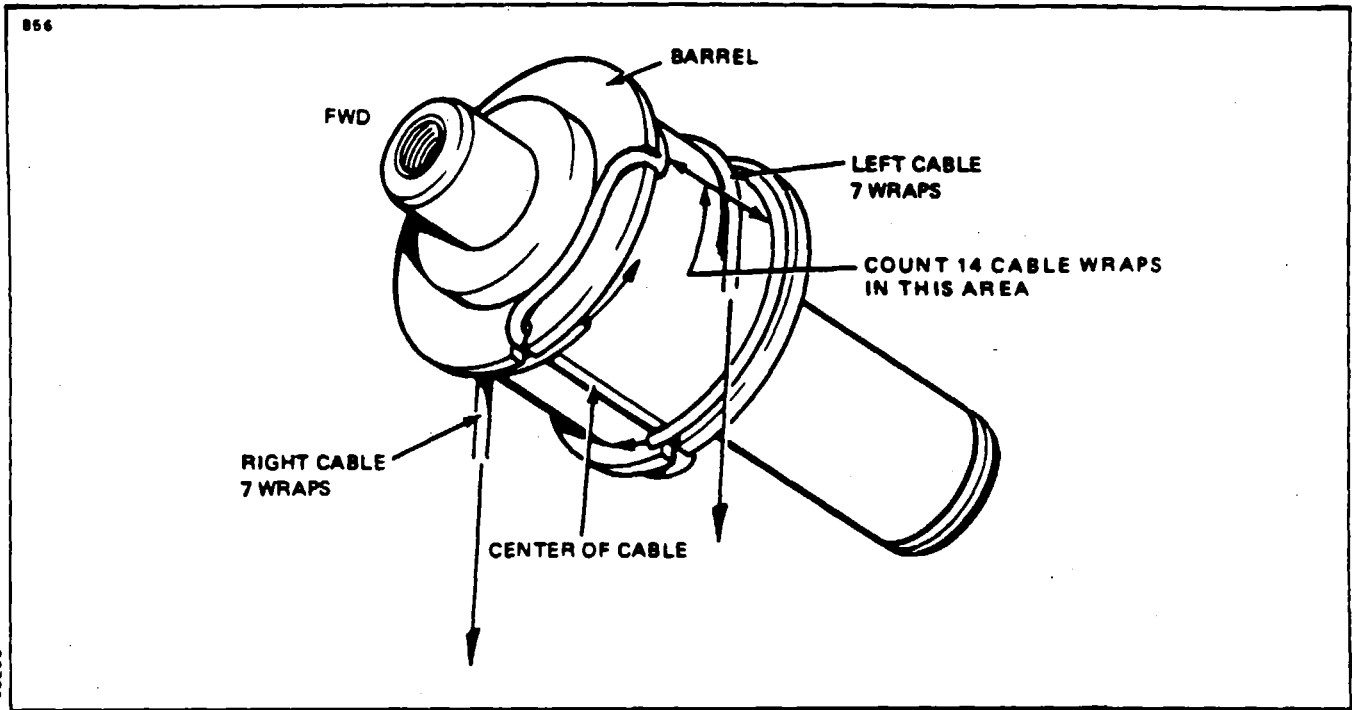

Figure 27-20. Wrapping Trim Barrels
1. Wrap the trim barrel by first laying the center (as measured equally from each end to the center of the cable) of the trim cable in the slot of the barrel. Bring the half of the cable to be used on the right side through the diagonal slot in the flange at the forward end of the barrel and wrap aft in a clockwise direction 7 wraps to the center of the barrel. Bring the half of the cable to be used on the left side through the diagonal slot in the aft end of the barrel and wrap forward in a counterclockwise direction 7 wraps to the center of barrel. Count a total of 14 cable wraps on the top side of the barrel. (Refer to Figure 27-20.)